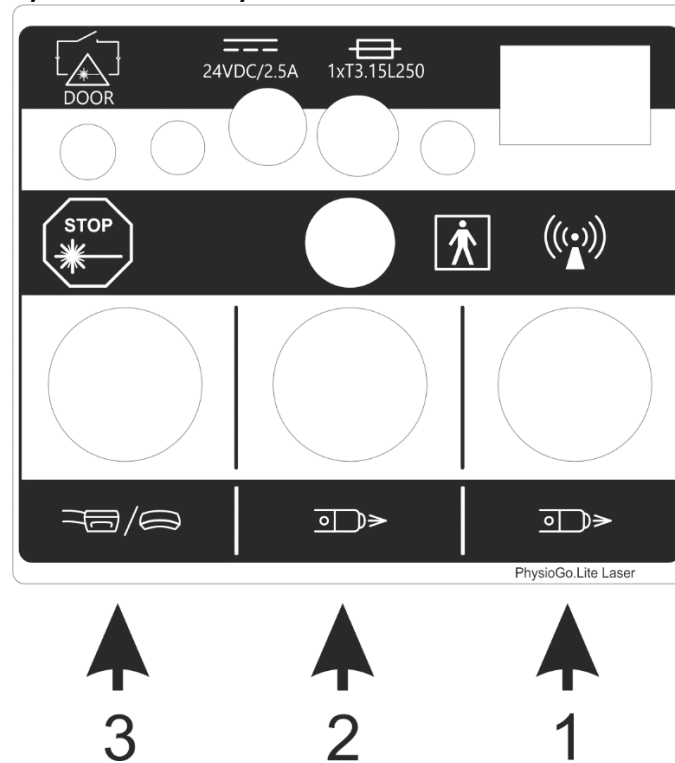

Figure 6-3 Laser therapy sockets
Laser applicators should be connected to laser therapy sockets according to Figure 6-3. Meaning of laser applicator symbols is shown in the table below. All connectors are protected against pulling out. When plugging a connector in, twist the thread to secure it.
- Connection between scanning applicator and controller should be done with cable run inside the stand. It must be connected to the socket on the rear casing panel of the scanner applicator and socket 3 located on the unit – see the Figure 6-3.